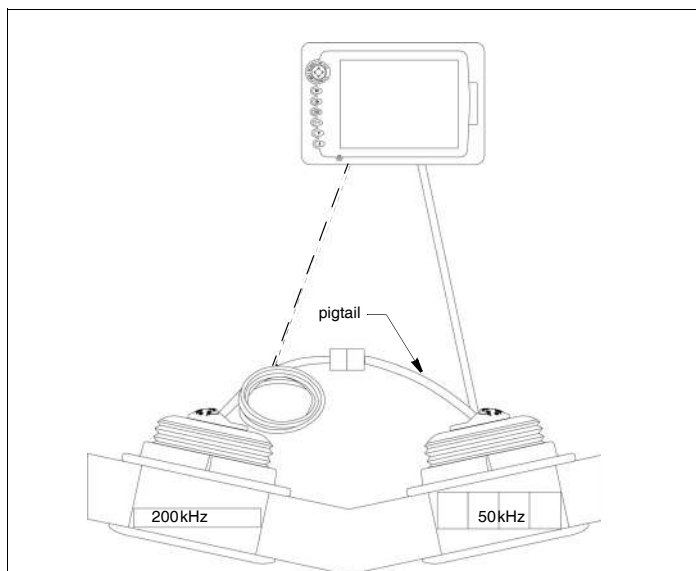

Figure 3. Connecting a Pair—single transmission line
- **Pairs**—Mount the transducers across from one another on opposite sides of the centerline (keel) (see Figure 3).
- **Single transmission line fishfinder**—Connect the 10m (33') cable of the 200kHz transducer to the 1m (3') pigtail of the 50kHz transducer. Connect the remaining 10m (33') cable to the fishfinder (see Figure 3).